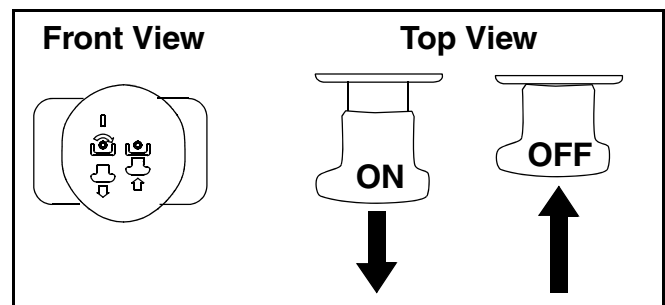

Figure 12
- Pull the PTO/Blade Engage knob outward into the engaged (ON) position. See Figure 12.